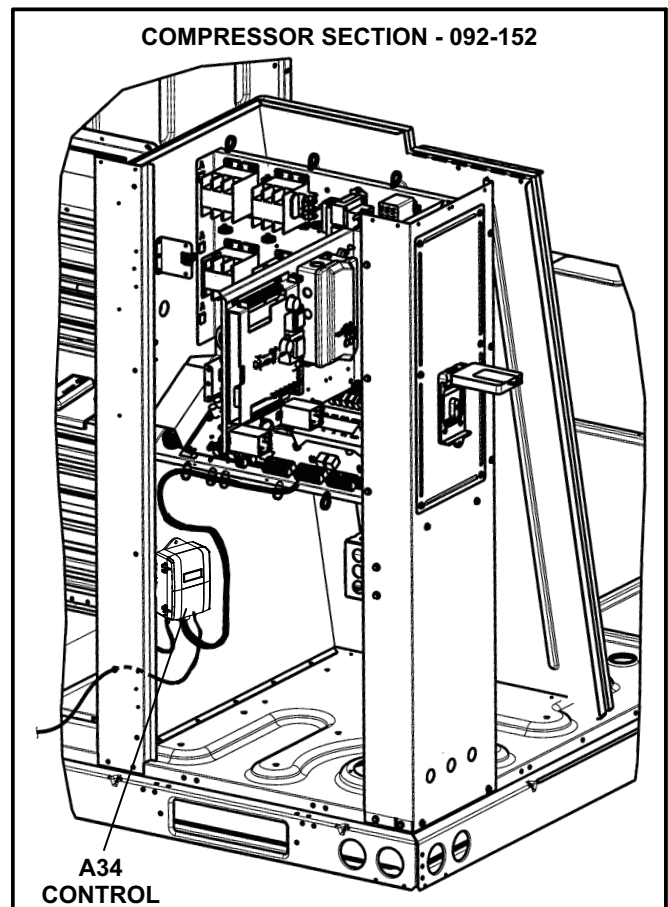
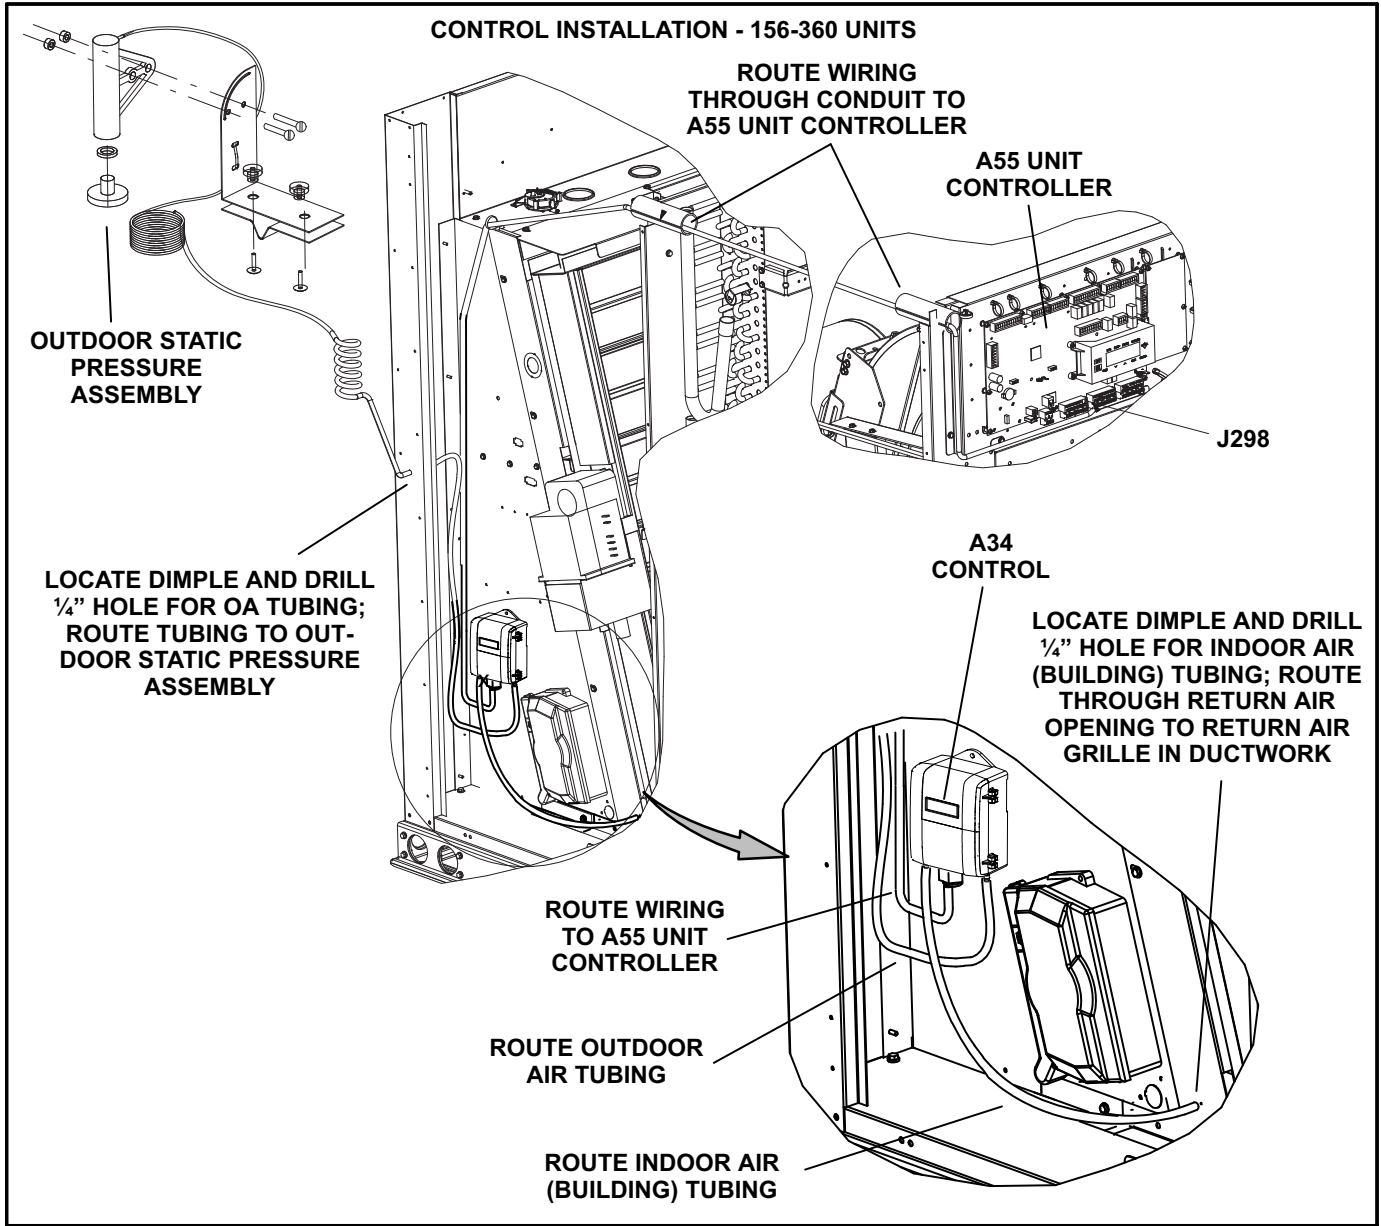

FIGURE 1
FIGURE 3
- 3- Install the A34 sensor as shown in figures 1 or 2 for 092-152 units and figure 3 for 156-360 units. Secure sensor with two #10 self drilling screws.
8- Attach outdoor air tubing to the A34 control (-) port and the indoor air (building) tubing to the (+) port. Drill ¼" holes and route air tubing as shown in figures 1 or 2 for 092-152 units and figure 3 for 156-360 units.